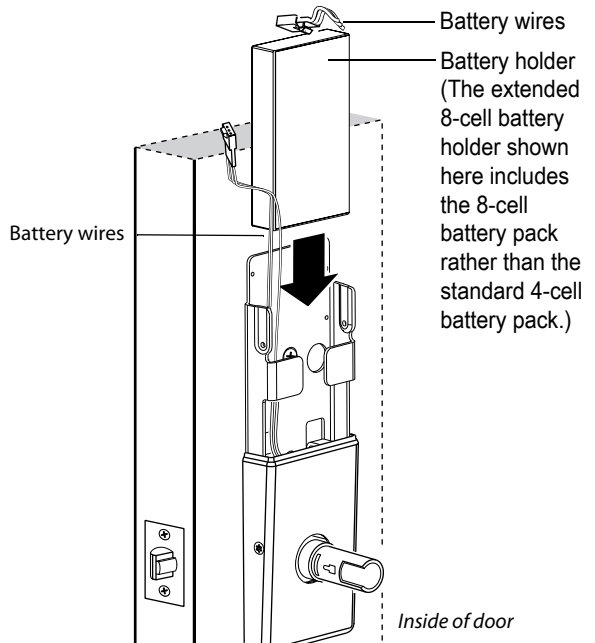

Figure 17 Installing the battery holder, 8-cell shown
- 1 Position the battery wires against the fire plate side wall, as shown in Figure 17.